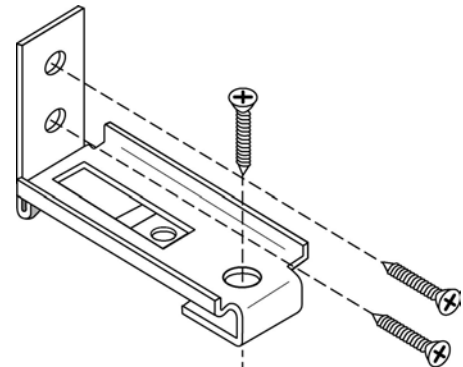

Figure 3B
- E. Remove the Pivot "L" Bracket (#20) and drill holes into the wall where you made the pencil marks. Complete installation of the Pivot "L" Bracket (#20) by securing it with Screws to the floor and the wall (See Figure 3B). Note, if you are not screwing directly into wood, be sure to use a Screw Anchor (not supplied) for each Screw in the wall.